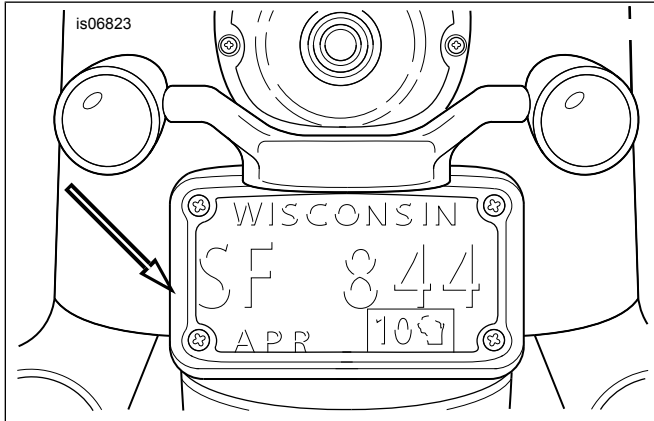

Figure 4. License Plate Assembly
4. See Figure 4. Place the light bar on the rear fender and install stock fasteners. Tighten fasteners to 9.5–16.3 N·m (84–144 in-lbs)